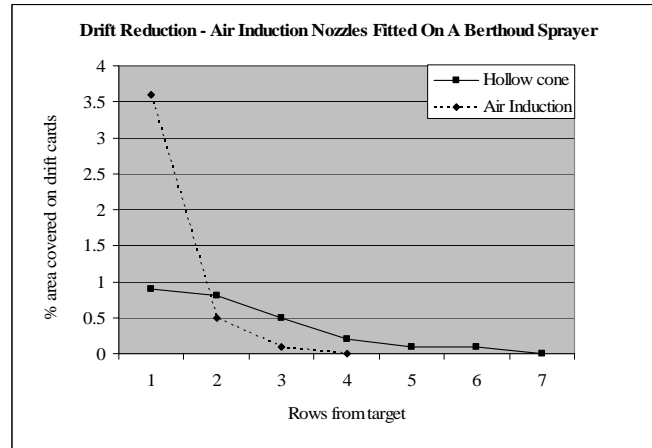

Figure 5. Drift reduction using air induction nozzles
**4.** *Air Induction Nozzles (AI).* These nozzles, when used properly, can reduce drift by at least 50 percent. The principle behind these nozzles is to create a larger droplet that won't drift as far but still maintain good leaf and fruit coverage. Air induction (A.I) nozzles are available either as flat fan or hollow cone nozzles where an internal venturi creates negative pressure inside the nozzle body. Air is drawn into the nozzle through one or two holes in the nozzle side, mixing with the spray liquid. Figure 5 shows the results of a drift comparison trial at Cornell University, where a Berthoud trailed airblast sprayer was fitted with flat fan air induction nozzles and compared to the same sprayer fitted with hollow cone nozzles.